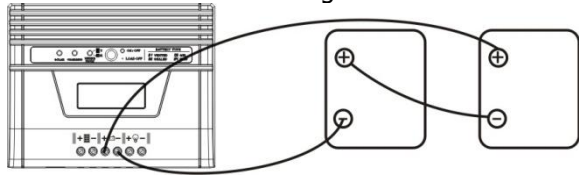

Fig. 5
- 1) **Multiple batteries in series connection (Refer to Fig. 5):** All batteries must be equal in voltage and amp hour capacity. The sum of their voltages must be equal to the nominal DC Voltage of the unit.